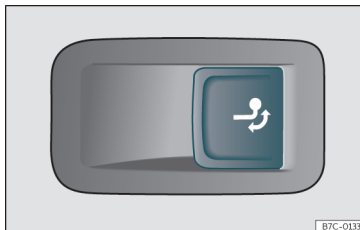

Fig. 243 Right side of the boot: button to unlock the tow hitch.
- Pull the »» Fig. 243 button briefly. The tow hitch unlocks electrically and automatically turns outwards. The control lamp in the button will flash »» Fig. 243.
- Pull the >>> Fig. 243 button briefly. The tow hitch unlocks electrically.
- Turn the tow hitch under the bumper with your hand until you feel and see that it engages and the control lamp on the >>> Fig. 243 button stays on.
- If the warning light of the button >>> Fig. 243 is *flashing*, this means that the tow hitch has not been attached properly or is damaged >>> ⚠.
- Never press the >>> Fig. 243 button when there is a trailer hooked to the vehicle or when a carrier system or other accessories are mounted on the tow hitch.